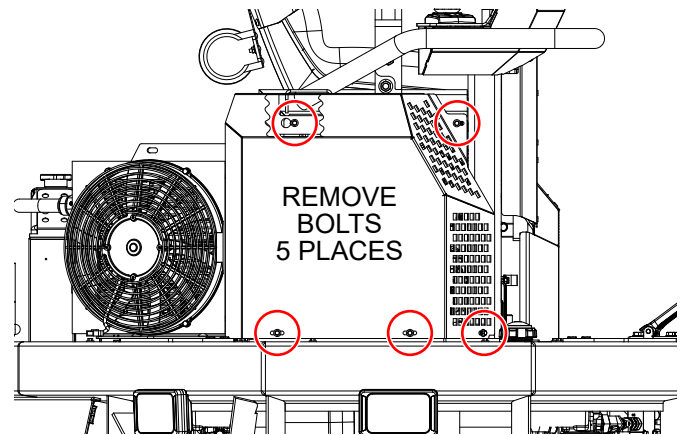

Figure 52. Right-Side Cover Removal
3. Remove the five bolts securing the right-side cover (Figure 52) to the frame. Set the cover and bolts aside.